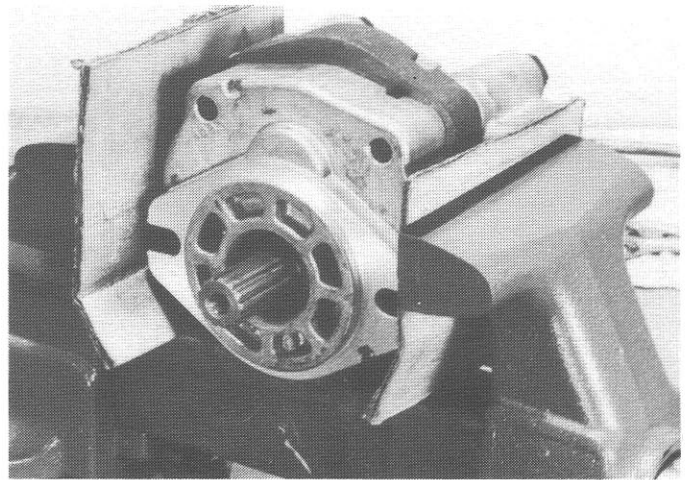

Fig. 3
3. Place pump in machinist vise. Use blocks of wood or cardboard between pump and vise jaws. (Fig. 3)